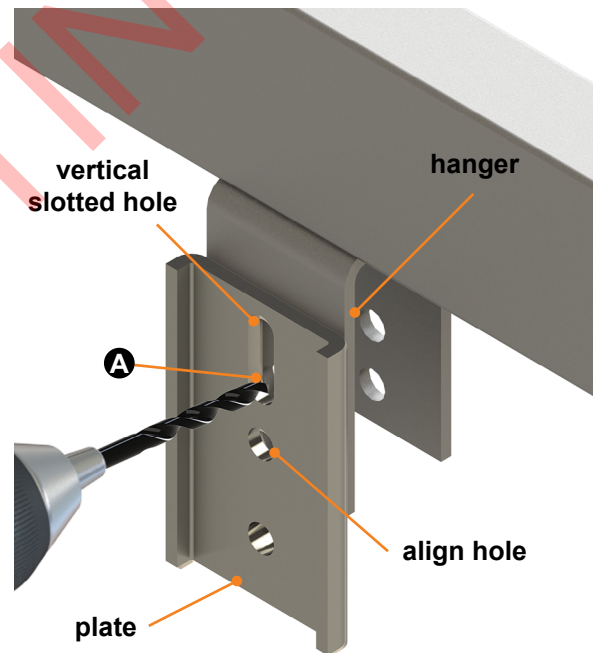

Fig.4
5. Place the lift kit hanger plate on the outside of the hanger. Align the center hole of the plate with the bottom hole of the hanger (Fig.4).